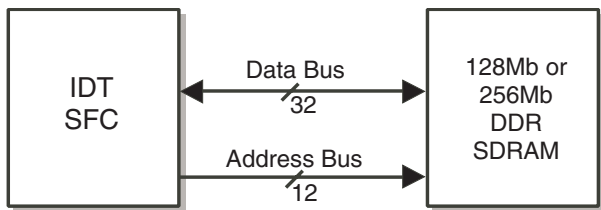

Figure 2a. Configuration 1 - Two Chip Solution
2. See Figure 2a-2g for the 7 different configurations referenced in the table above.
Below are the various chipset solution configurations available to the sequential flow-control device (see Figure 2a-2g). The external memory interface is designed to seamlessly connect one or more DDR SDRAMs. The output signal names should be connected directly to its corresponding input signal on the DDR SDRAM. There are three signals on the DDR SDRAM that must be tied to a static state. CKE, \overline{CS} , and DM. Table 4 outlines how to connect the many interface pins to the DDR SDRAM(s). Figure 3 and 4 are some examples of the memory interface connections for various density configurations. For information on DDR SDRAM layout recommendations, please see IDT application note AN-423.